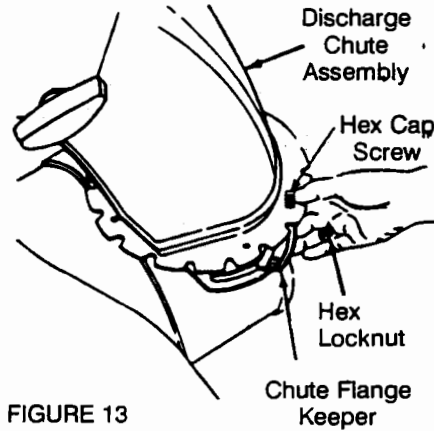

FIGURE 13
- Remove the chute assembly by removing the hex cap screws, chute flange keepers and hex locknuts. See Figure 13.